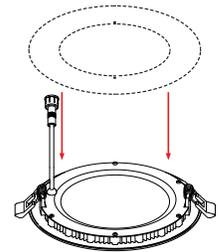

Fig. 1
8. (Optional) Push spring loaded clips in an upright position and place suitable goof ring on top of fixture (Fig. 1).